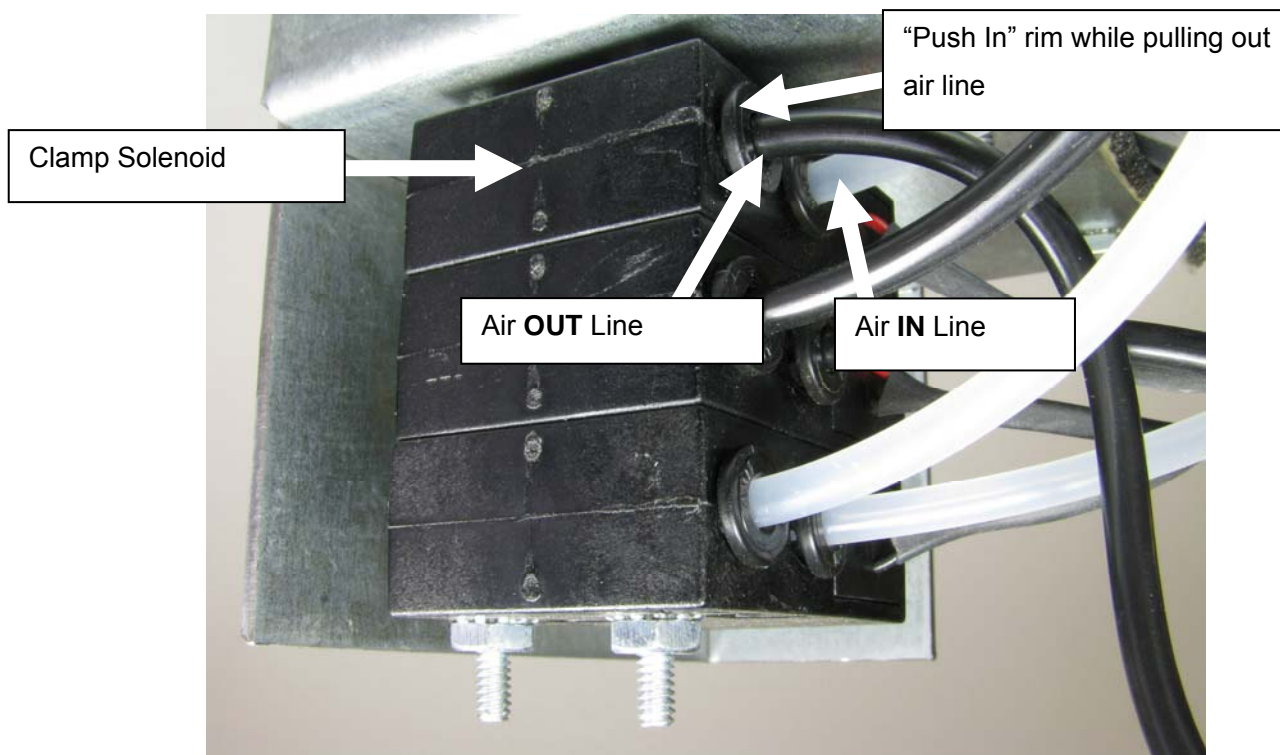

Fig 2
1. Disconnect power and air from the machine. Remove both air lines from the Clamp Solenoid. **See Fig 2.**